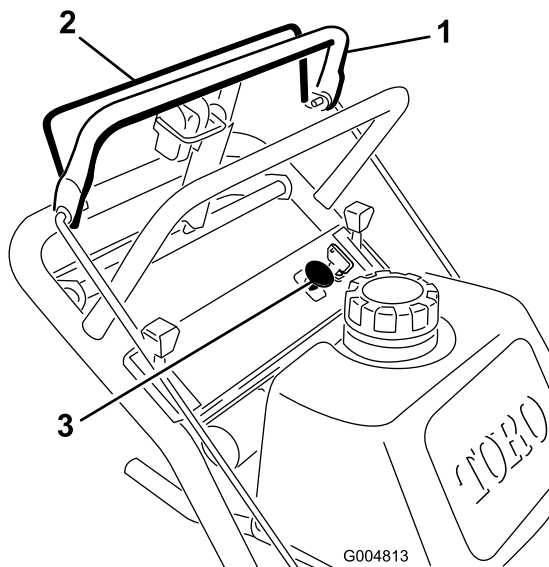

Figure 16
1. Release the upper control bar to stop the machine (Figure 16).
2. To engage blade, squeeze blade control bail against the upper control bar (Figure 16).
Release the blade control bail to disengage the blades (Figure 16).